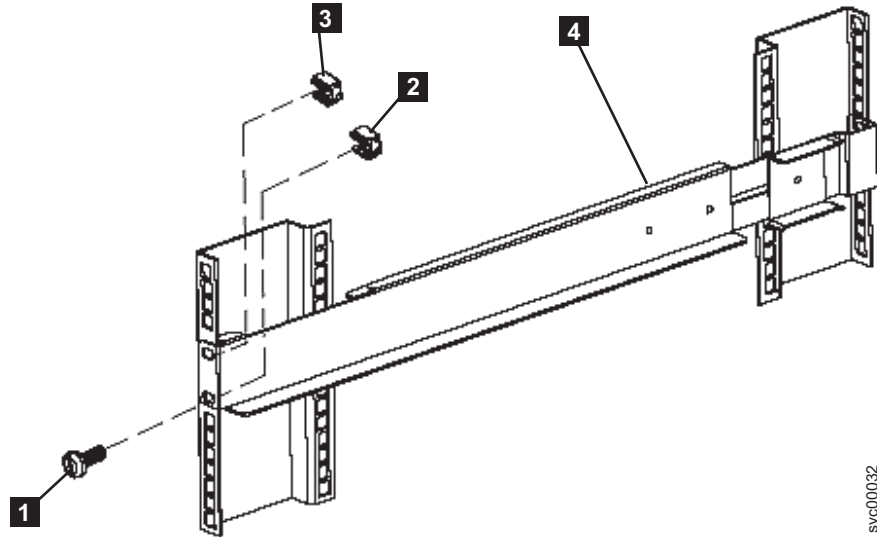

Figure 281. Securing the front rail on the 2145-1U uninterruptible power supply
8. Attach only the bottom hole of the rail to the front of the rack with one M6 × 10 screw and one clip nut (**1** in Figure 281 on page 605).